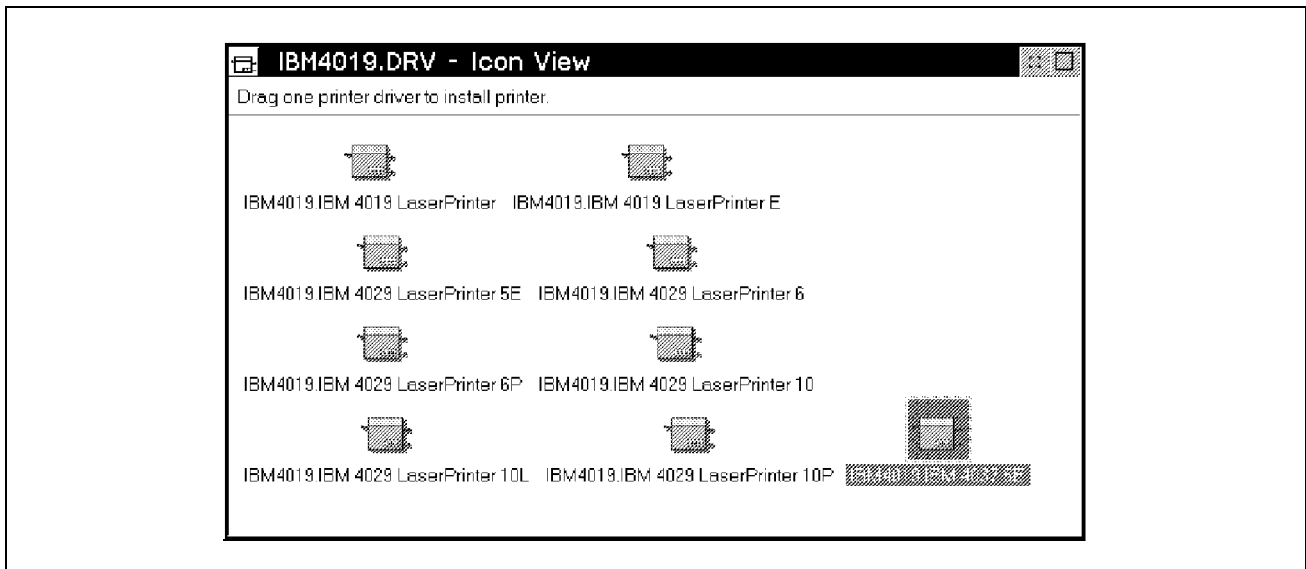

Figure 28. Installing a Printer Using The Printer Driver
- Double-click on the **Printer Driver** icon. You will see a window, listing the different printer models supported by the driver (see Figure 28)